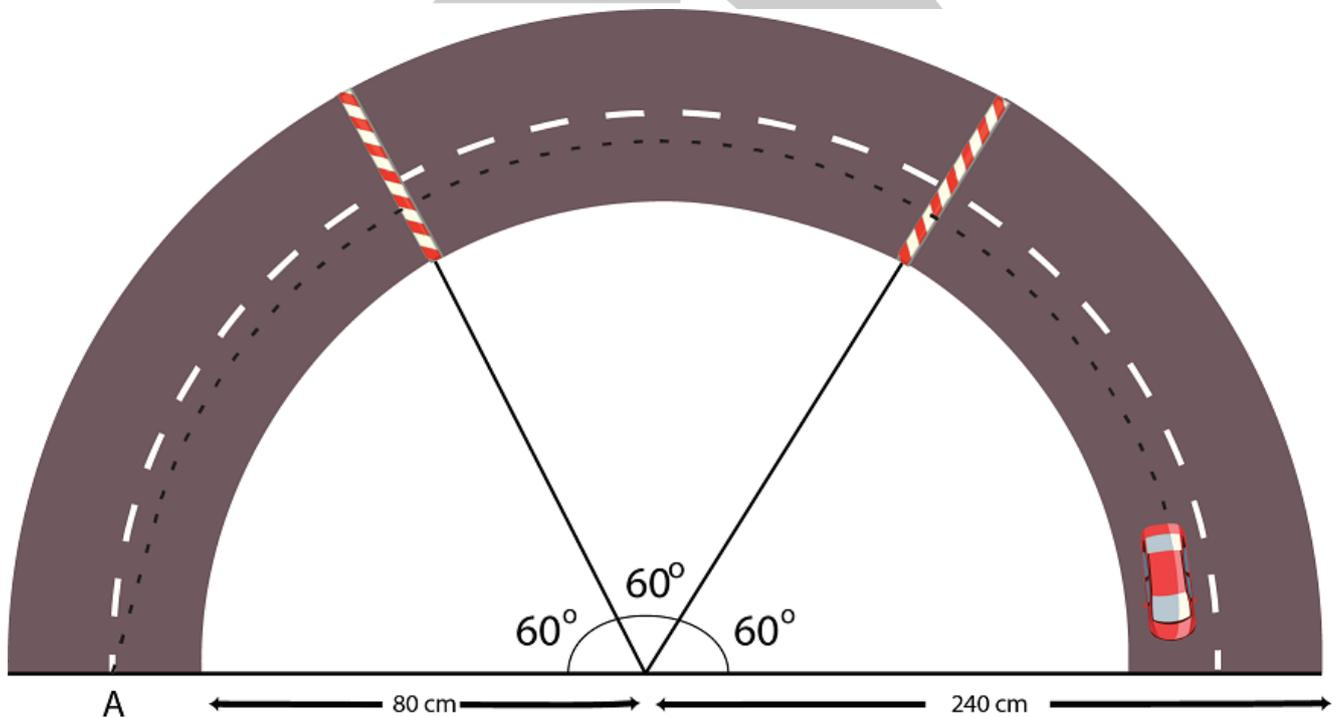

FIGURE 2
2) The curved track will be in the form of a semicircle of internal radius 80 cm and external radius 240 cm, with a **mean radius of 160 cm**, thus making the mean track length to be approximately **500 cm**. The cars will start from point A and will try to complete the track of width 160 cm. There will be **two obstacles** in the track in the form of small speed breakers (of approximate height 1-2cm). One obstacle will be at an angle of **60°** and the other at an angle of **120°**. For better understanding of the track, refer to the figure **Figure 2**.